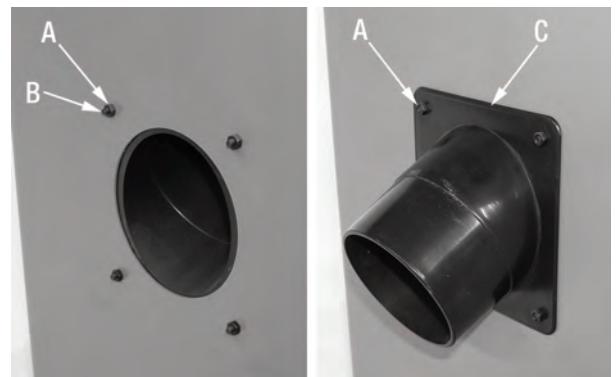

Figure 8
1. Remove the 4 hex. nuts (A) Fig.8 from the left side of the cabinet stand, keep the 4 screws (B) in place on the inside of the cabinet stand.
2. Install the 4" dust chute (C) onto the 4 screws (B) and secure it to the cabinet stand with the 4 hex. nuts (A) removed previously.